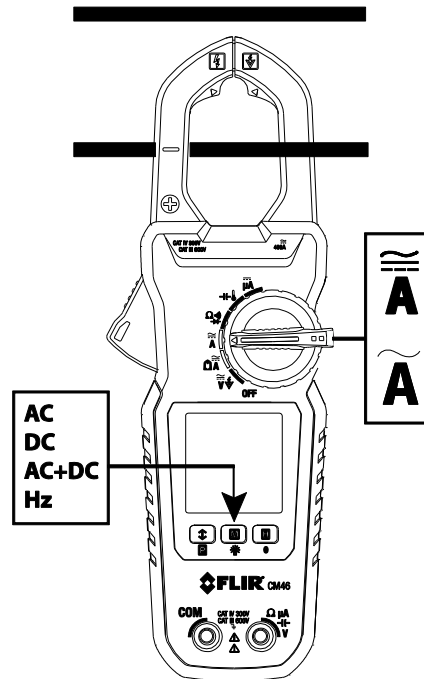

Figure 5-3 Correct and incorrect clamping
2. Set the function switch to the $\tilde{\mathbf{A}}$ (AC), $\overline{\mathbf{A}}$ (AC, DC, or AC+DC). DC and AC+DC measurements are available on the CM46 only. For low current measurements please refer to Section 5.8.
5. Press the trigger to open the clamp jaws and fully enclose one pole of a circuit—refer to Fig. 5-3. For optimum results, center the conductor in the jaws.